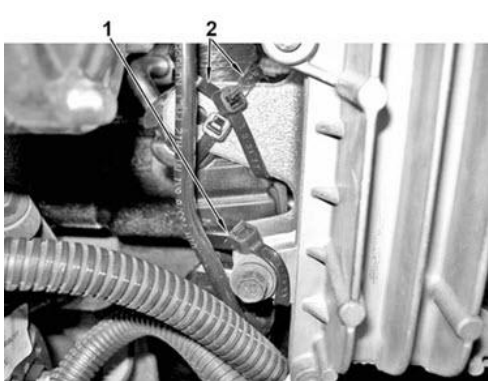

**Figure 3 - ECM Tie Straps**
6. Cut one tie strap securing harness to lower front bolt and cut two tie straps securing harness to ECM bracket (Figure 3, Items 1 and 2).